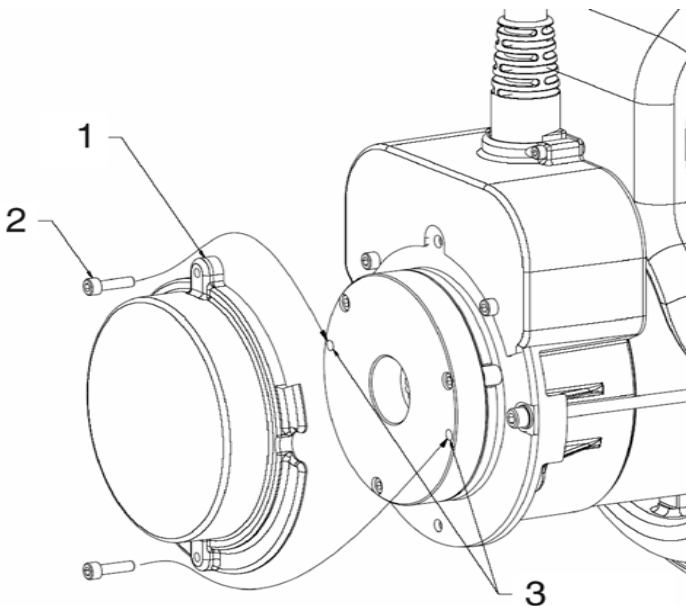

Figure 3-12. Manual Disengage
3. Remove the two **cover bolts (2)** and **brake cover (1)**.
4. Insert the **cover bolts (2)** into the two **disengage holes (3)** in the brake housing, see item 3 in Figure 3-12., Manual Disengage.
5. Tighten down the **cover bolts (2)** and the brake on that drive motor will disengage.
7. After towing is complete, chock wheels and remove **cover bolts (2)** from **disengage holes (3)**.
8. Reinstall **brake cover (1)**.